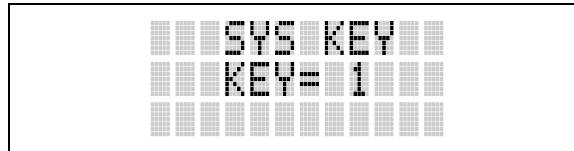
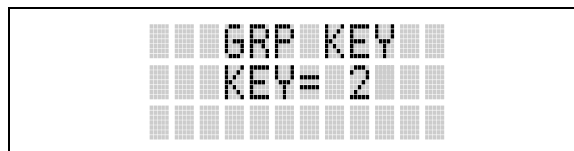

Figure 8-9: System Encryption Key Display
Figure 8-10: Group/Channel Encryption Key Display
3. Use the **[▲]** or **[▼]** button to toggle between displaying the system key (Figure 8-9) or the group/channel key (Figure 8-10).